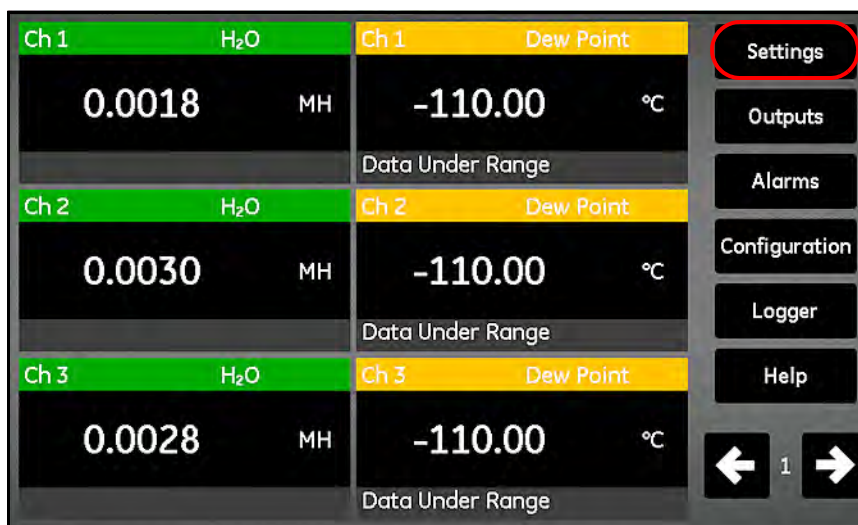

Figure 86: Settings Button on the Main Screen
- From the main screen, tap the **Settings** button (see *Figure 86* below).